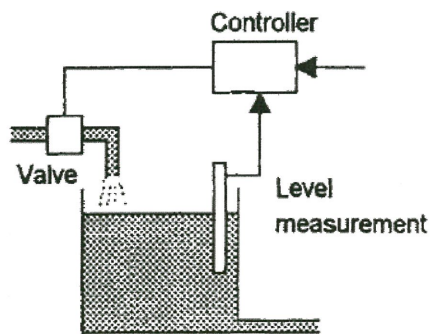

Figure Q6(f)
- (f) Figure Q6(f) shows a control system designed to control the level of water in the container to a constant level. It uses a proportional controller with K_p equal to 10. The valve gives a flow rate of 10 m³/h per percent of controller output. The flow rate is proportional to the controller input.